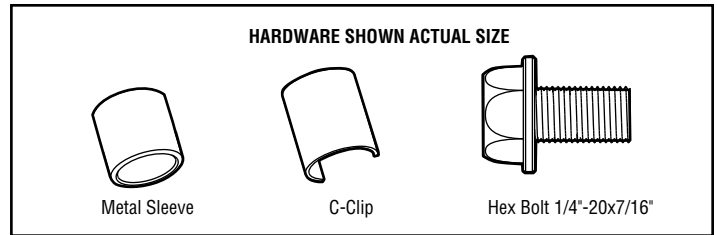

Figure 1
3. Attach rail support braces to the back rail. Loosely insert 1/4"-20x7/16" hex bolts into the aligned holes of the end rail and rail support brace (Figure 1). Do not finger tighten.